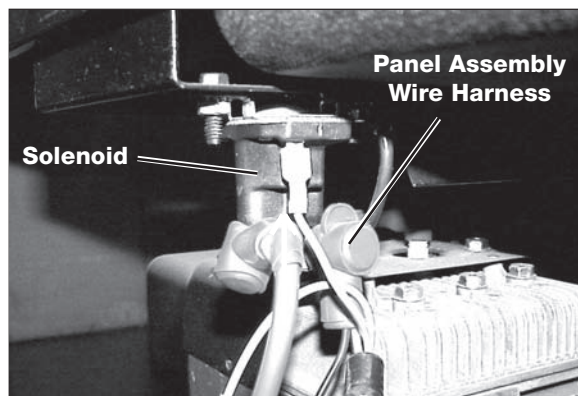

Figure 4
4. Locate the solenoid on the left side of the unit. See Figures 4 and 5.
5. Remove the nut from the solenoid post with the panel assembly wire harness. Place one end of the positive (red) battery cable onto this post with the panel assembly wire. Reassemble nut and tighten securely. See Figure 4.